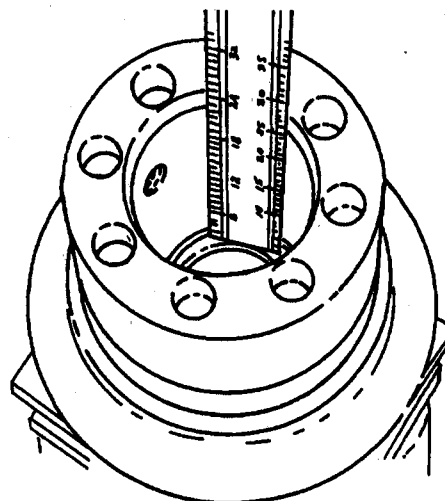

Figure 15.
19. Check meshing of bevel gear (42) and pinion (19) by marking teeth with engineers blue and rotating gears. Refer to page 9 for correct marking. When meshing is correct, install locking tab (36) to ring nuts (37).
20. Remove the four fixing bolts and remove pinion housing (32). Install new o-ring (21) to pinion housing (32), and assemble to center casing (9), ensuring that oil scoop faces top and drain faces bottom of differential center casing. Coat threads of bolts (22) with Loctite #270 and tighten to a torque of 18.5 lb-ft. (25 Nm). Remove nuts and tubes from assembly.
21. Install new o-rings (17) and back-up rings (18) onto pistons (16). Install pistons.
22. Insert new half shaft oil seal (18, Figure 5) into steering case (11) to a depth of 3.75 inches (95 mm) below hub mounting surface. See Figure 15.